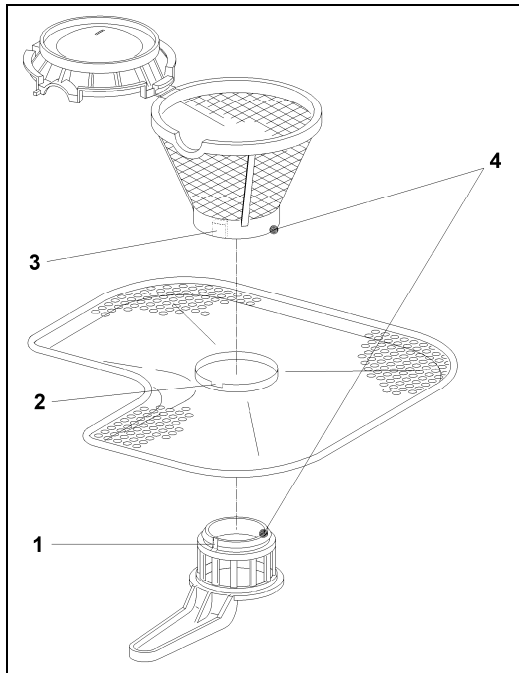

Figure 5-20: Microfine Filter Replacement
3. Cut the old filter combination apart at the snap fitting between the handle and microfine filter (Figure 5-20, Item 4).
5. Place the handle and microfine filter together as shown in Figure 5-20.
- Ensure that the cutout on the handle (Figure 5-20, Item 1) aligns with the cutout on the large surface area fine filter (Figure 5-20, Item 2).
- Ensure that the retaining lug on the new microfine filter (Figure 5-20, Item 3) aligns with the cutout on the handle.